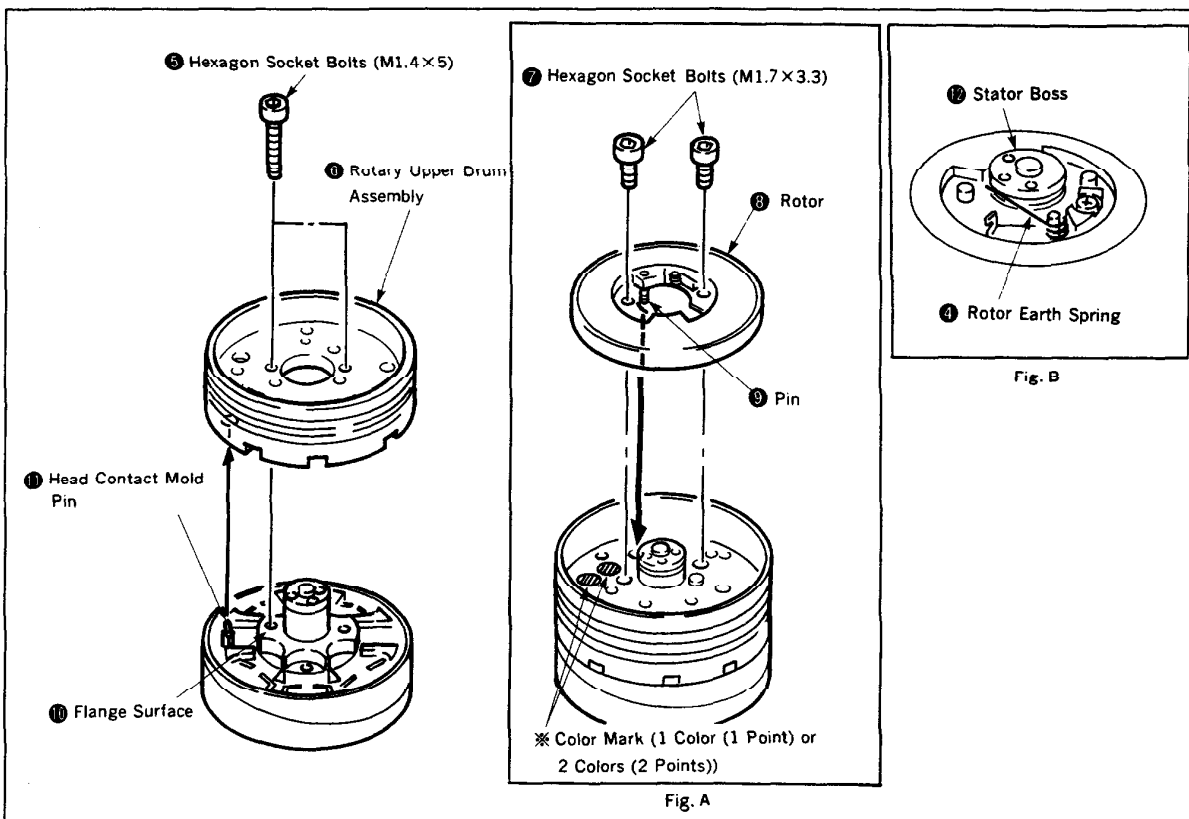

Fig. 45
There are two rotary upper drum assembly types, depending on a color mark. (Fig. A in Fig. 45)
- Using a drum screwdriver (Ref. No. J-11), remove the two hexagon socket bolts ❺, and then, rotary upper drum assembly ❻. (Fig. 45)
- Using the drum screwdriver (Ref. No. J-11), remove the two hexagon socket bolts ❻, and then, rotor ❼. (Fig. A in Fig. 45)
- Clean the flange surface ❶ and the surface of the rotary upper drum assembly ❷ which comes into contact with it, and make sure that there is no dust or scratch. (Fig. 45)
- Adjust a direction of the upper drum so that the head contact mold pin ❸ will be put in the reference hole of the rotary upper drum assembly ❷, and push it in lightly. (Fig. 45)
- Using the drum screwdriver (Ref. No. J-11), tighten the two hexagon socket bolts ❺ (800g·cm) and rotate it with finger to make sure that there is no abnormality. (Fig. 45)
- Put the pin ❸ of the rotor ❼ in the hole of the rotary upper drum assembly. Using the drum screwdriver (Ref. No. J-11), tighten the hexagon socket bolts ❻. (800g·cm) (Fig. A in Fig. 45)
- Remove the rotor earth spring ❹ from the spring hook. Using tweezers, etc., hook it onto the groove of the stator boss ❶. (Fig. B in Fig. 45)